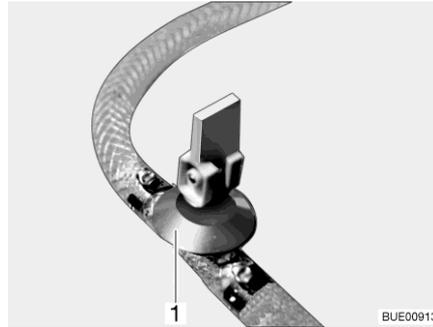
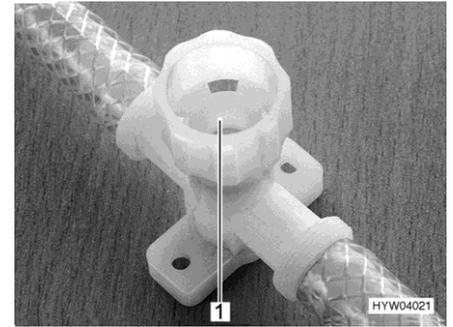

Fig. 179 Drain cock (with rocking lever)
Fig. 180 Drain cock (with twist cap)
- Open all drain cocks. To do this, position the drain cock's rocking lever (Fig. 179,1) vertically or turn the drain cock's cap (Fig. 180,1) in an anti-clockwise direction.